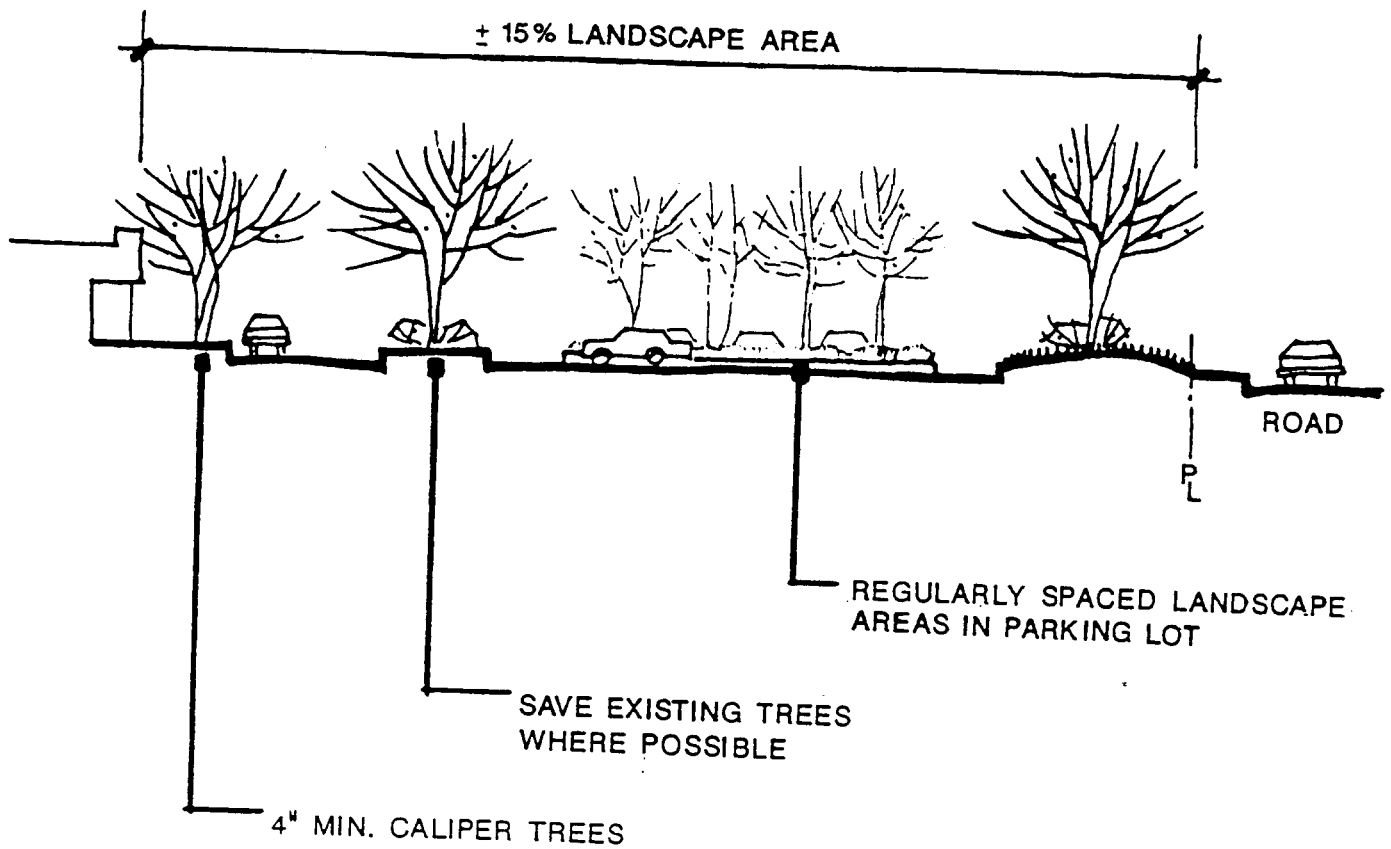

FIGURE 14
- Approximately 15% of the area between the main building face and the front property lines should be of a permeable landscaped surface. (Secondary buildings located between the main building and the front property line should not be included in the area calculation). (See Figure 14.)